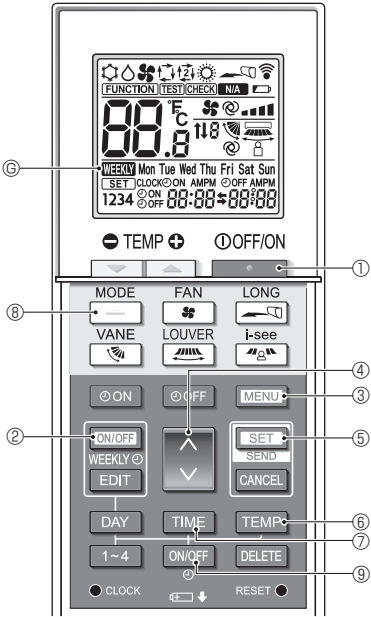
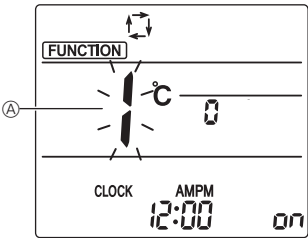
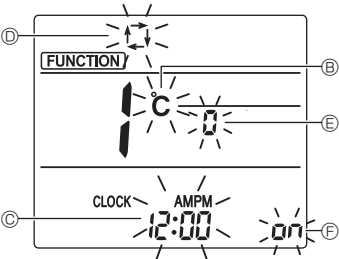

Fig. 5-1
Fig. 5-2
Fig. 5-3
| Item             | Setting                         | Fig. 5-3 |
5.1. Switching to the initial setting mode (Fig. 5-1, Fig. 5-2)
- Press the **OFF/ON** button ① to stop the air conditioner.
- If the weekly timer is enabled, press the **WEEKLY** button ② to disable the timer. (**WEEKLY** disappears.)
- Press the **MENU** button ③.
- The Function setting screen will be displayed and the function No. ④ will blink.
- Press the **SET** button ⑤ to change the function No.
- Check that function No. "1" is displayed, and then press the **SET** button ⑤.
5.2. Changing the temperature unit (Fig. 5-1, Fig. 5-3 Ⓑ)
- Press the **TEMP** button ⑥.
- Pressing the **TEMP** button ⑥ changes the temperature unit (°C / °F). (The factory setting is "°C".)
5.3. Changing the time display (Fig. 5-1, Fig.5-3 Ⓒ)
- Press the **TIME** button ⑦.
- Pressing the **TIME** button ⑦ changes the time display (12:00 / 24:00). (The factory setting is "12-hour format".)
5.4. Changing the AUTO mode (Fig. 5-1, Fig.5-3 Ⓓ)
- Press the **MODE** button ⑧.
- Pressing the **MODE** button ⑧ changes the Auto mode (Single / Dual). (The factory setting is "Single set point".)
5.5. Changing the pair No. (Fig. 5-1, Fig.5-3 ㊟)
(Fig. 5-1, Fig. 5-3 ㉔)
(Fig. 5-1, Fig. 5-2)